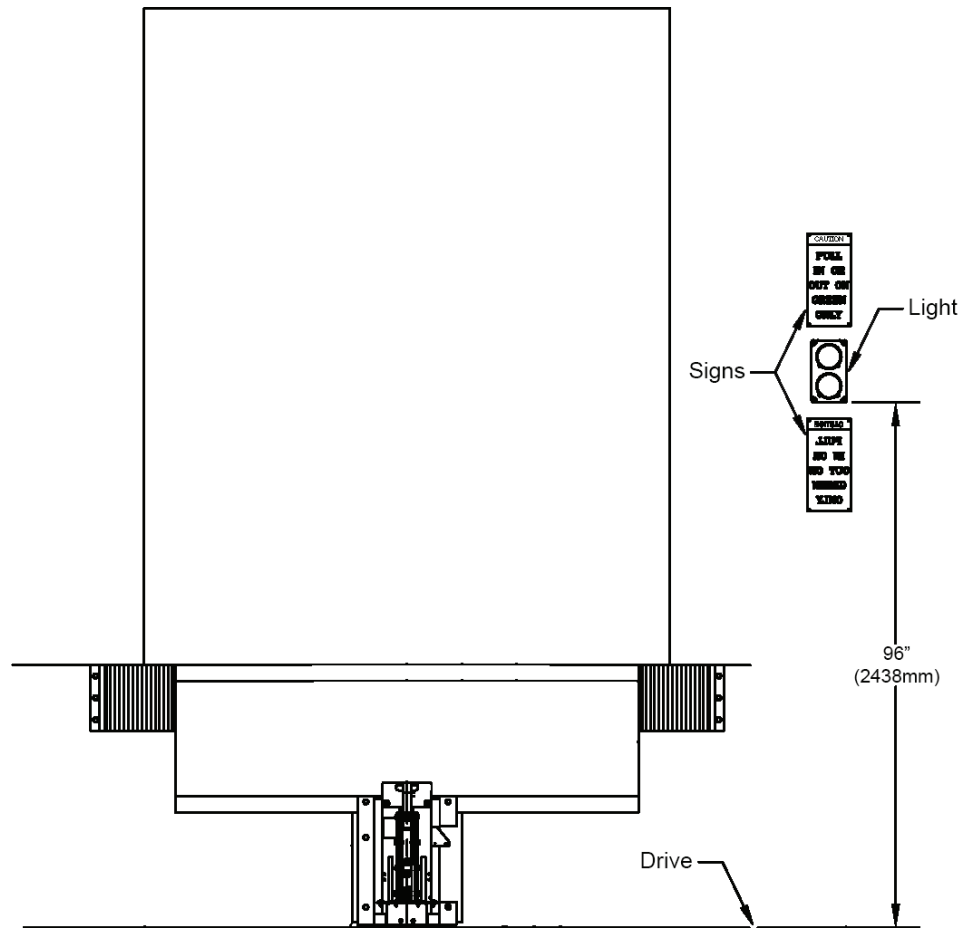

Figure 22
6. Install Outside Light Assembly and signs (see Figure 22).